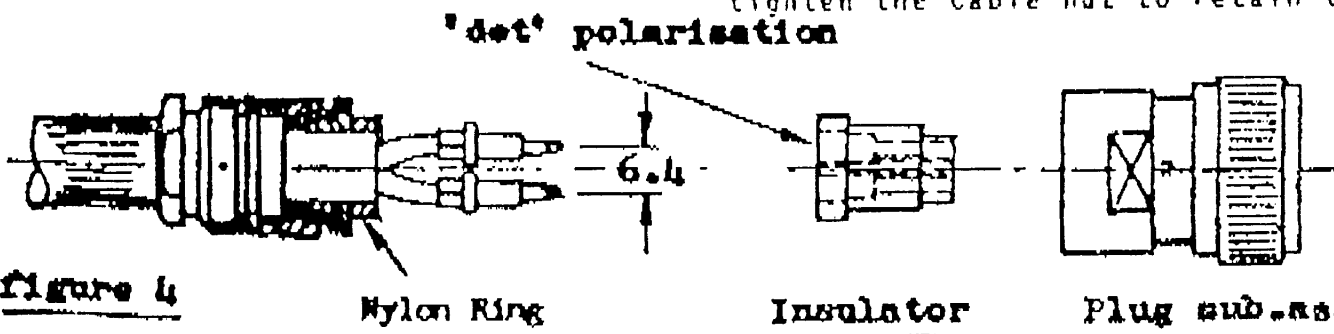

Figure 4
6. Form back contacts. Slide nylon ring over contacts and dielectric until it butts against the retaining clamp as shown in Fig.4 Check the contacts are 6.4mm apart.